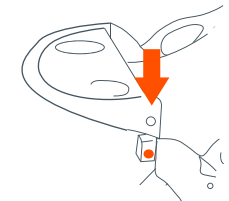

Fig. 10b
- Rotate the tray downward until latched onto the left armrest (Fig. 10b).